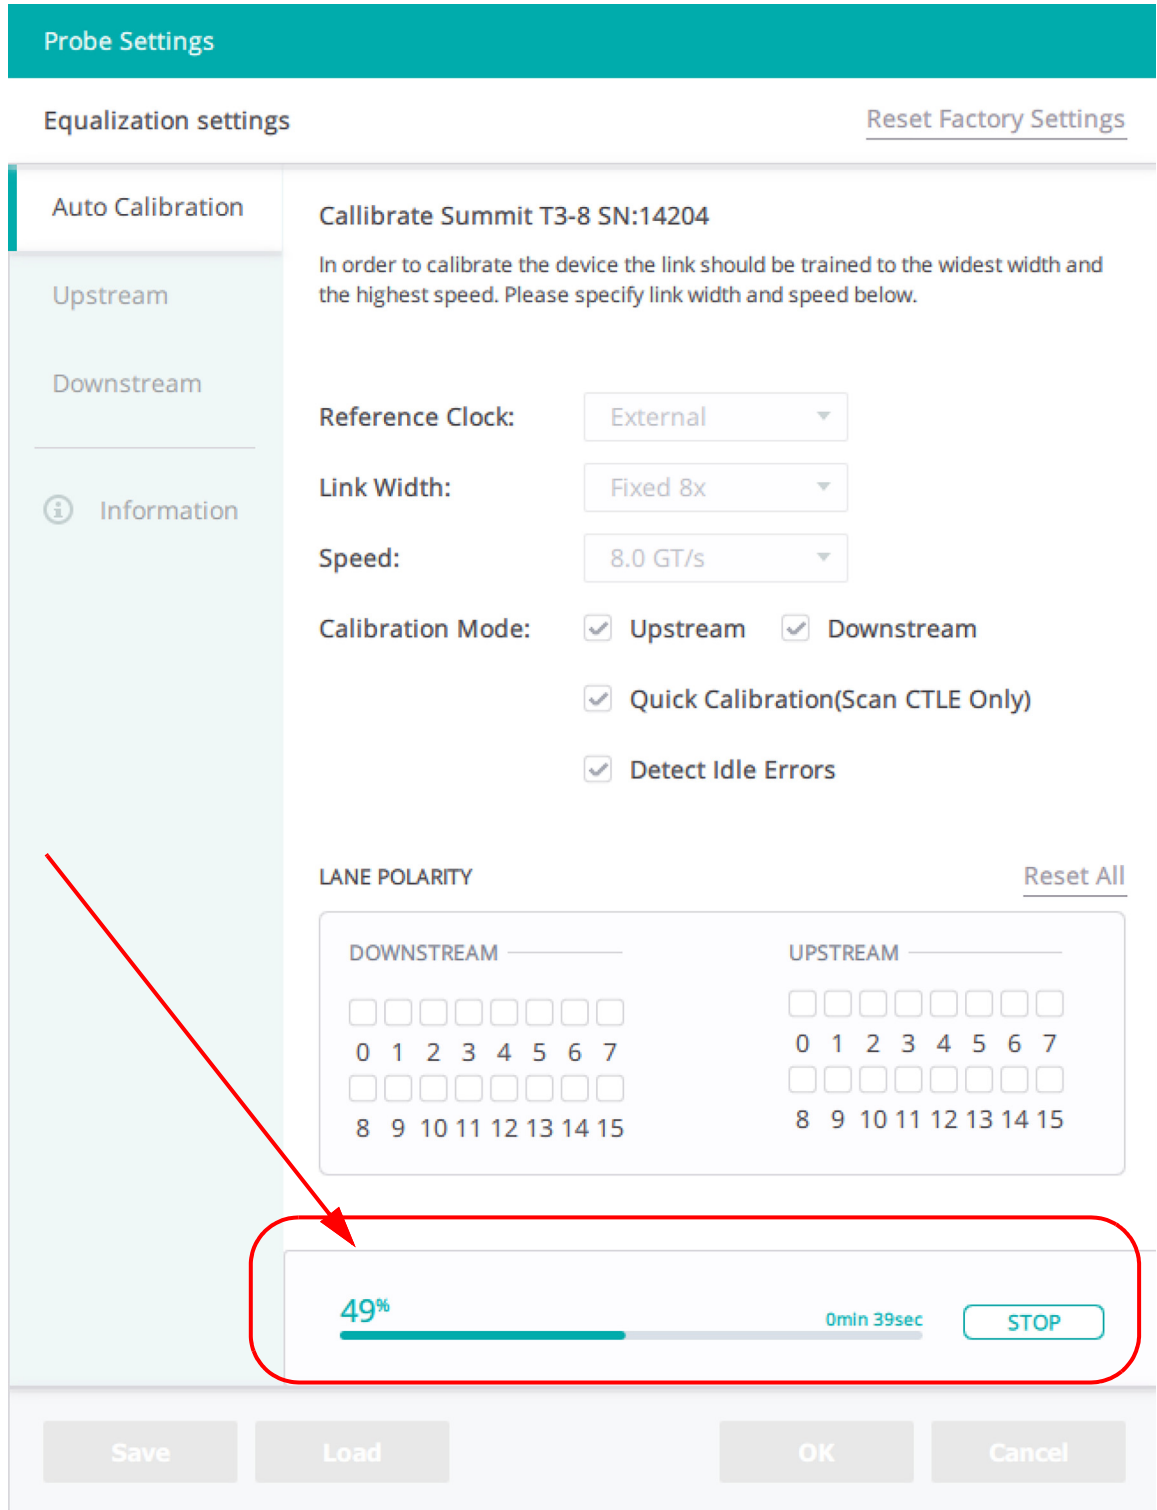

Figure 4.27: Calibration Running: Progress Bar
- Start Calibration (after you've set the options): You'll see a progress bar pop up. See Figure 4.27 on page 110